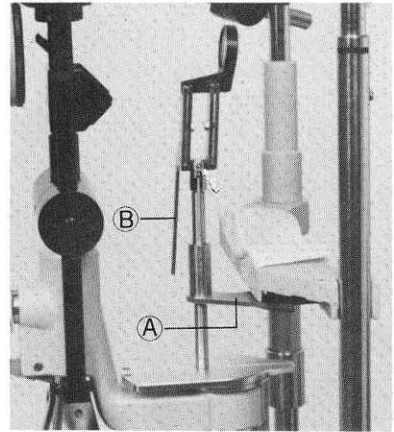
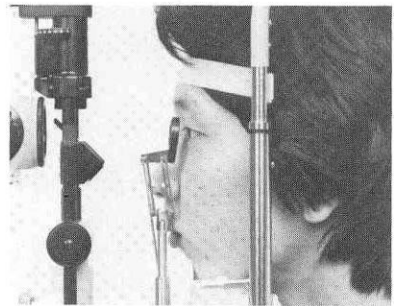

Fig. 42
Fig. 43
- (2) Place the Hruby lens guide plate¹⁸ in place on top of the rotational axis of the slit lamp and microscope arms.
- (3) Pull the lever^A of the Hruby lens attachment mount³¹ forward which will free the attachment mount³¹ and let it slide laterally below the chin-rest. Locate the attachment mount³¹ over the Hruby lens guide plate¹⁸ and insert the shank of the Hruby lens³² into the attachment mount³¹, with the lower end of the shank engaging the groove of the guide plate¹⁸. If necessary, loosen the locking ring to permit the shank to lower sufficiently for coupling. (See Fig. 42)
- (4) Center the slit lamp arm and microscope arm approximately so that they face the patient's eye.
- (5) Depending on whether the patient is myopic or hyperopic, move the Hruby lens forward or backward. with the control lever^B, so that a slit image is focused on the fundus. (See Fig. 43)
- (6) When observing the peripheral part of fundus, it will be carried out through the guide of eye by the fixation target or by rotating the microscope around the upright post.
- (7) The elimination of reflecting light will be carried out by changing the slit width, moving the inclination latch and rotating the slit arm.